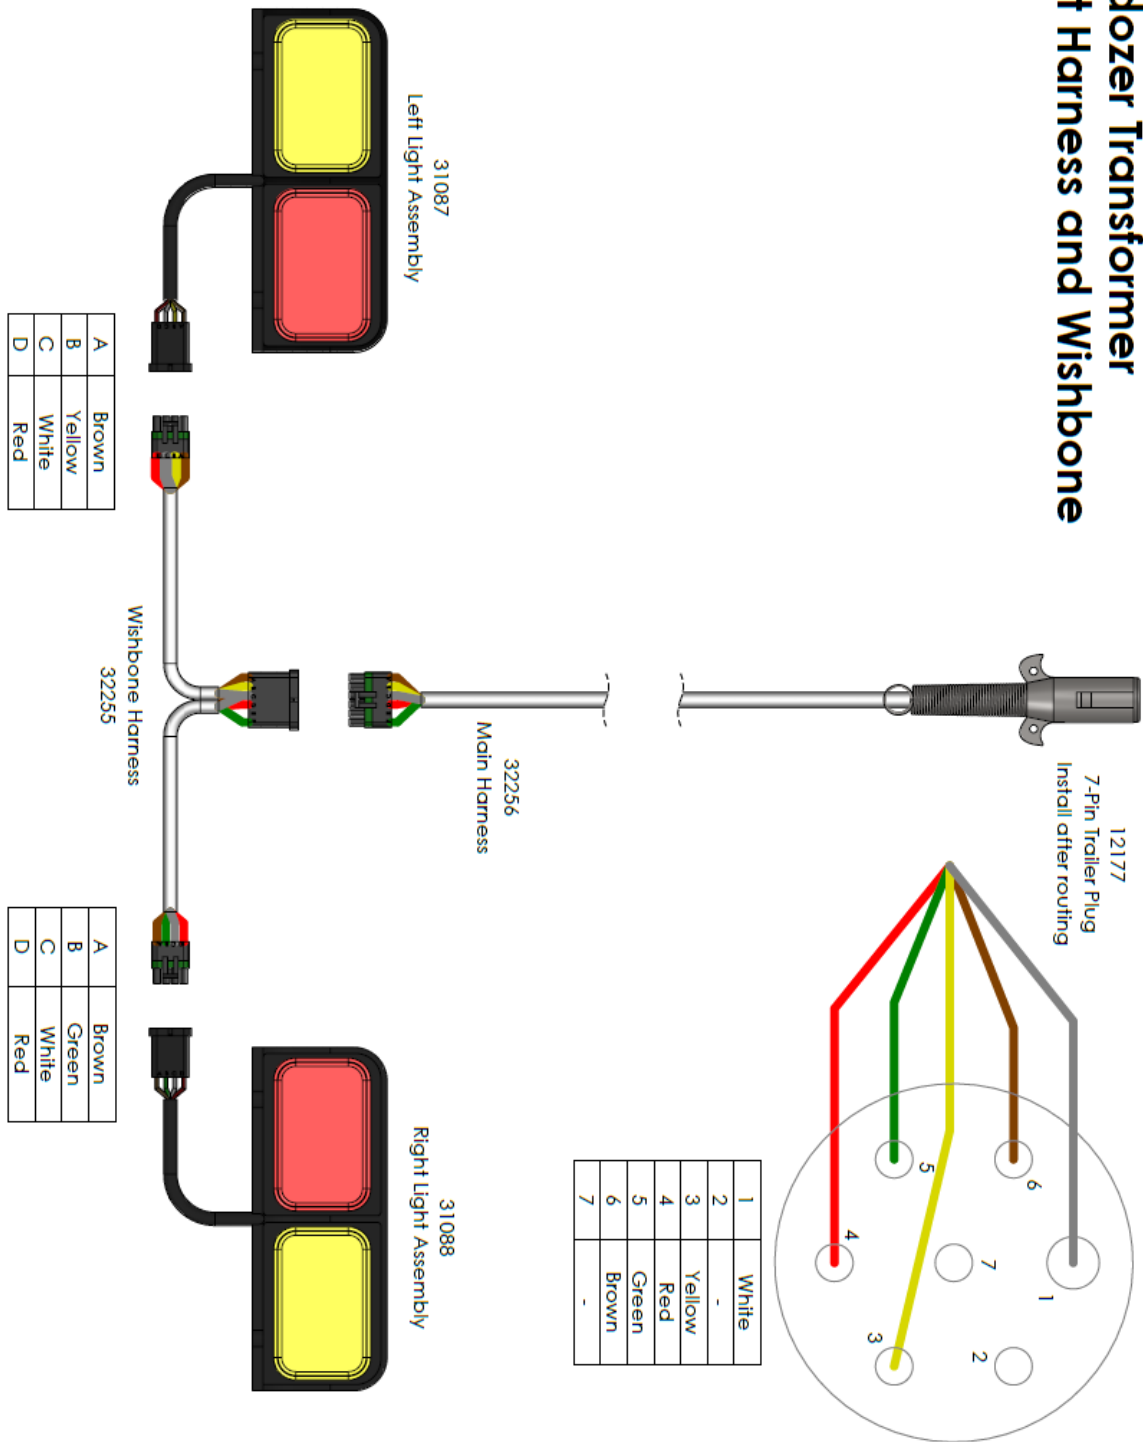

Figure 3.43 – Pulldozer Transformer 2470 Light Wiring Schematic
- d) Connect main harness (32256) to wishbone harness (32255) as shown in figure 3.43.